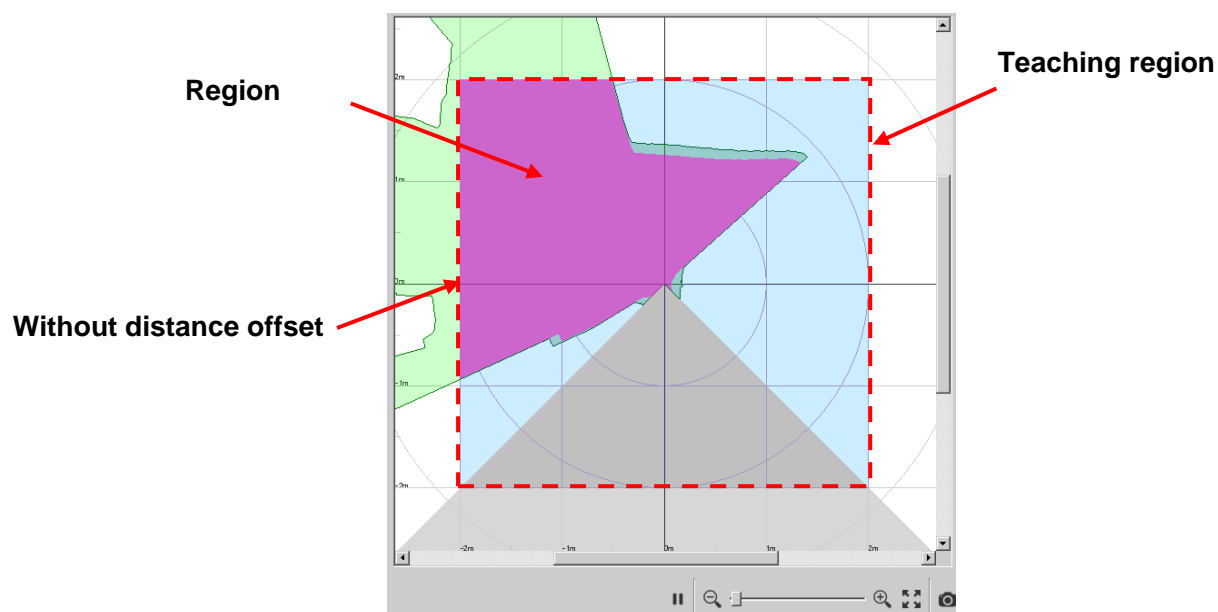

Figure 4.2.1.2.4-13 when there is no background in the configured teaching region
- While performing teaching within the specified region, the boundary of teaching region will be set as the region as long as nothing is in the background. In this case, difference of the offset value is not applied. (Refer to figure 4.2.1.2.4-13)